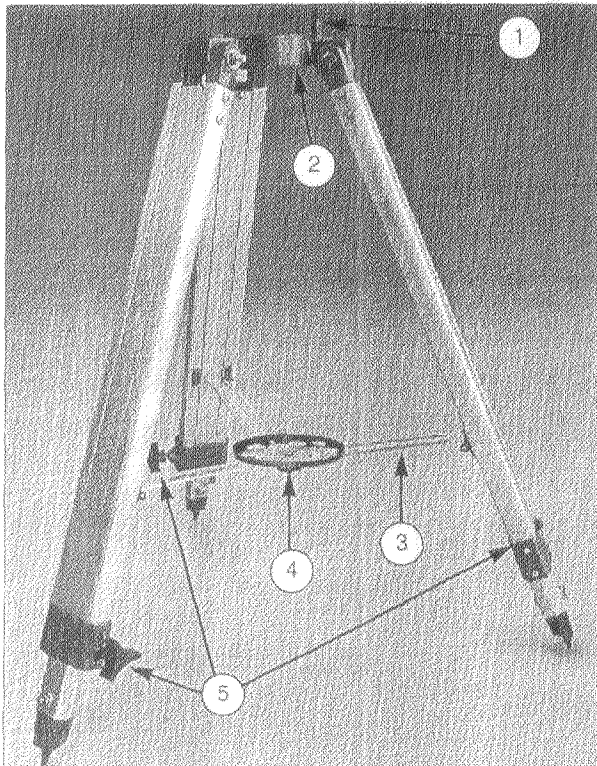

Fig. 2: LXD 500 Tripod. (1) Azimuth Tangent Arm; (2) Tripod Head; (3) Extension Strut; (4) Accessory Tray; (5) Height Adjustment Knob.
The LXD 500 Tripod (Fig. 2) is shipped virtually completely assembled from the factory. Once set up, all that is required of an observer is to attach the accessory tray and adjust the tripod to the desired observing height.
Remove the tripod from the shipping box and stand the tripod vertically with the tripod feet down. Grasp two of the tripod legs and with the full weight of the tripod on the third leg, gently pull the legs apart to the fully open position (Fig. 2).
Remove the round accessory tray (4), Fig. 2, from the shipping box.
Loosen the black, star-shaped height adjustment knob (5), Fig. 2, at the base of each tripod leg.
Firmly tighten (but do not overtighten) the three height adjustment knobs (5), Fig. 2.
Remove the accessory tray (4), Fig. 2. Grasp the tripod head (2), Fig. 2, with one hand. With the other hand, pull directly up on the central hub of the extension strut, where the accessory tray (4), Fig. 2, was attached. This action will cause the tripod legs to move inward to a collapsed position.